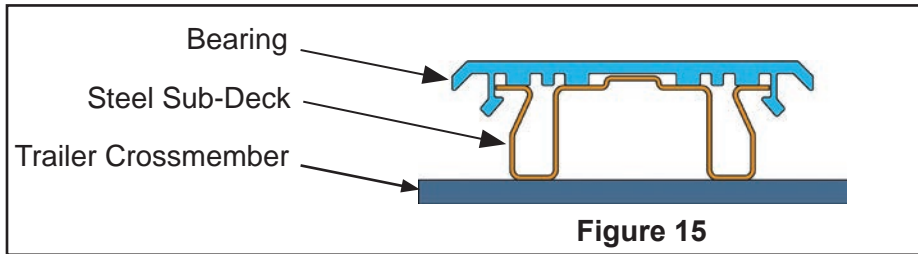

Figure 15
- Bearings come in 6 ft [1829 mm] lengths and snap down over sub-deck. (See Figure 15)